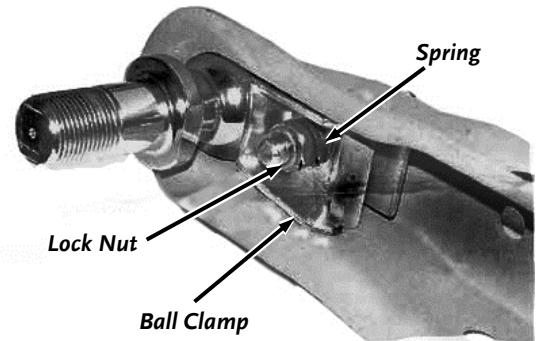

Figure 20
1. With the 2" ball in the socket of the receiver, close the latch of the receiver completely (**Figure 20**). Verify that the locking trigger is properly engaged in its detent.